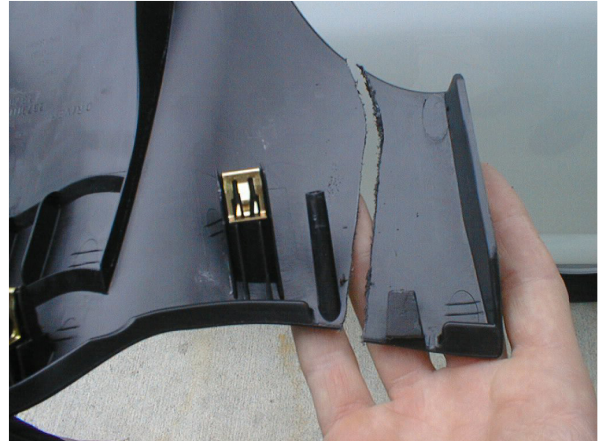

Figure 55. Modify Driver's Side Dash Cover
6. Modify the driver's side dash cover, closest to the doghouse (see Figure 55).